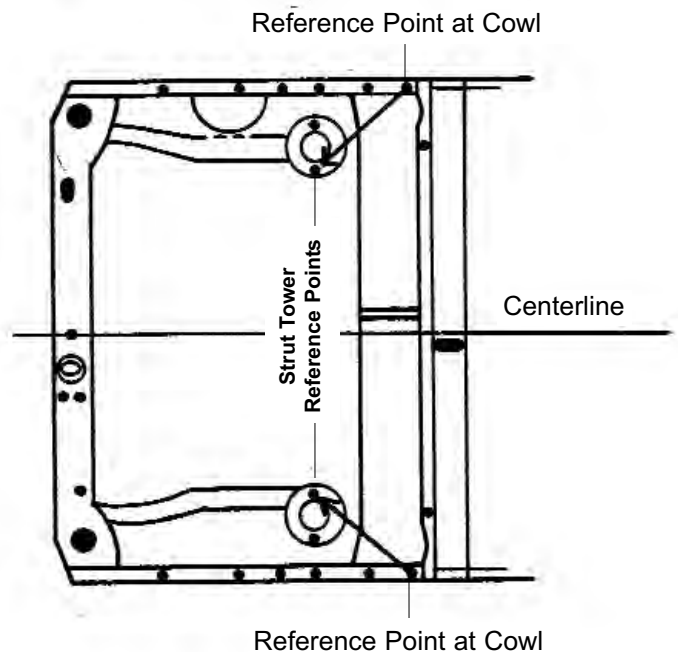

Figure 82
4. To measure the forward position of a strut tower relative to reference points at the cowl, extend a Tram Gauge (or tape measure) from a reference point at the cowl to the strut tower reference point. (See Figure 82.)